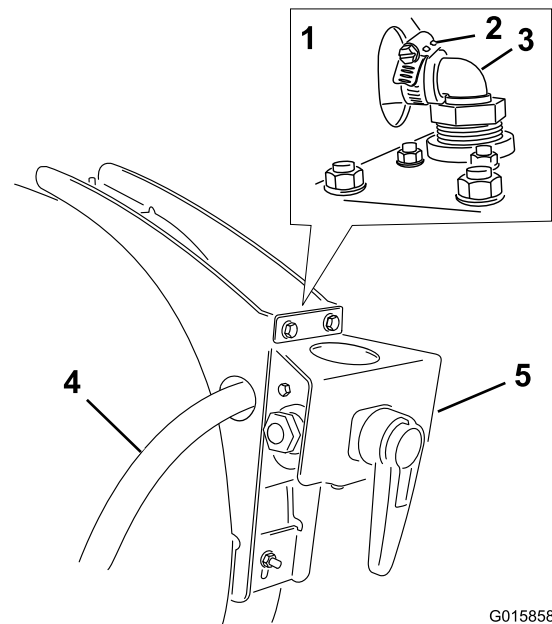

Figure 25
- Clamp the hose end onto the rear 90° barbed fitting on the 4-way valve (Figure 25).
- Install the rinse-pump filter inline to the open ends of the hoses coming from the rinse pump and to the rinse nozzles (Figure 25).